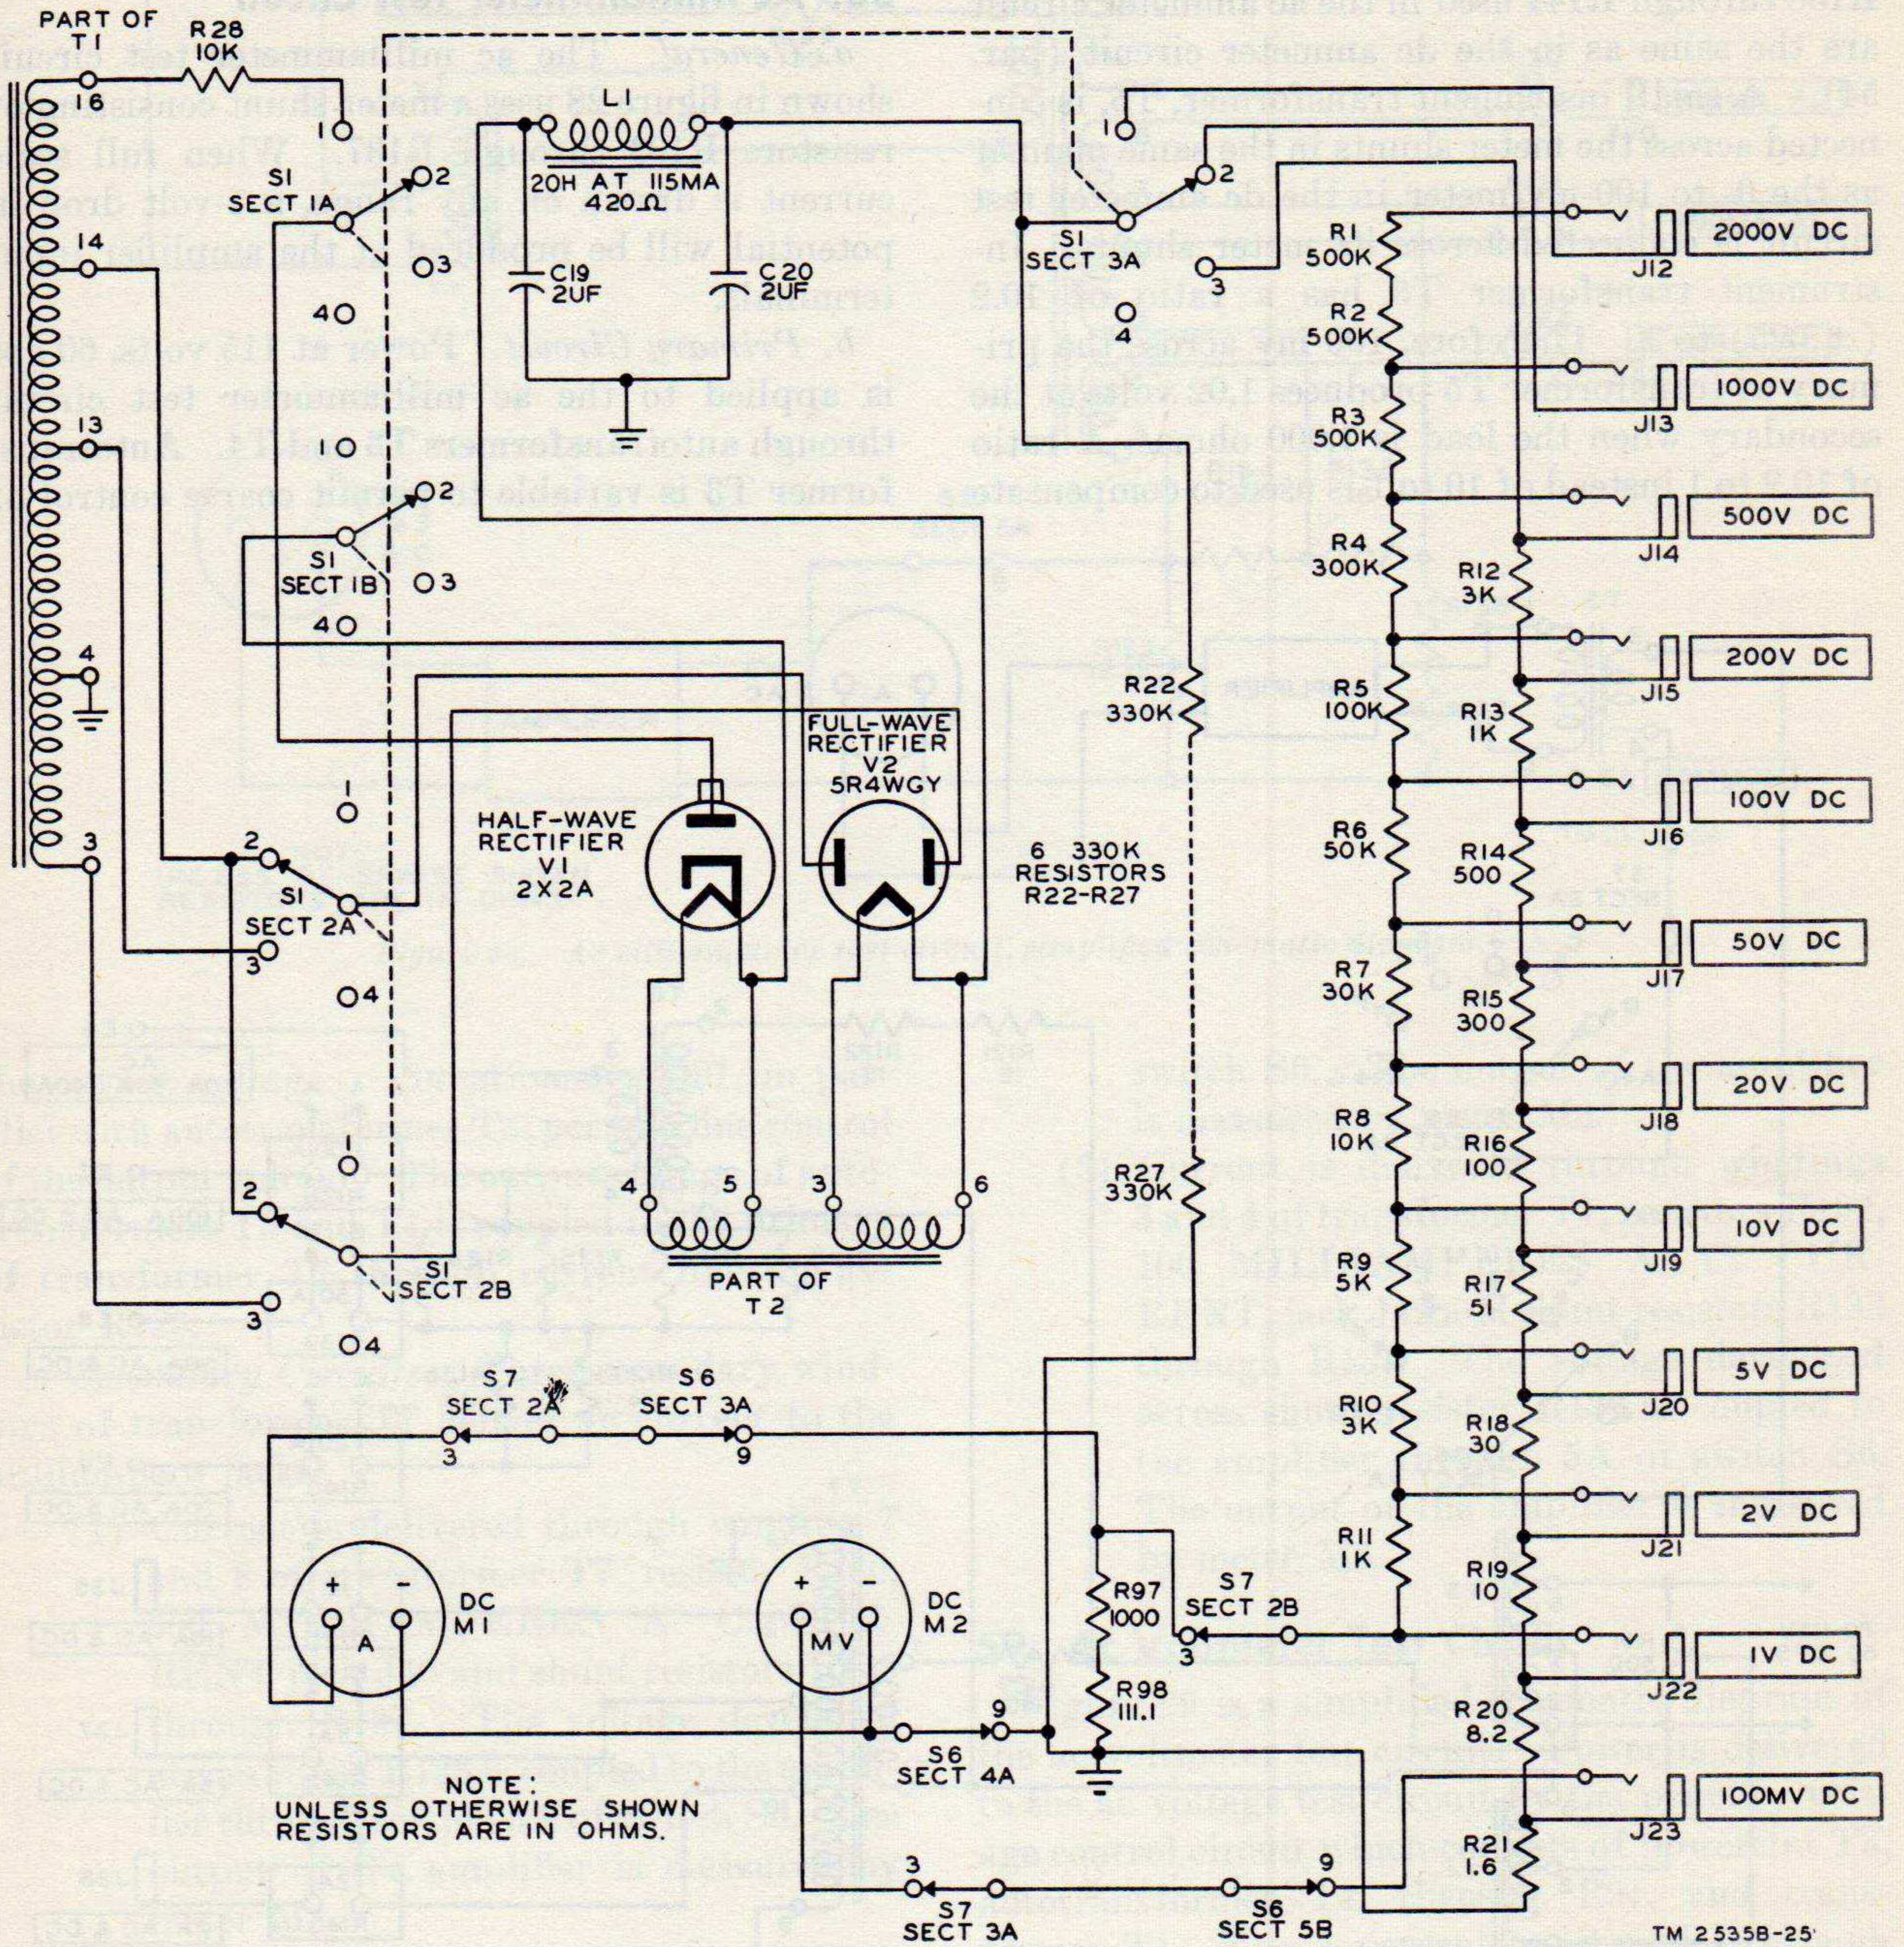

Figure 26. Dc voltage test circuit, simplified schematic diagram.
a. 100 Millivolts to 500 Volts. Figure 26 is a simplified schematic diagram of the dc voltage test circuit. The 5R4WGY rectifier tube V2 obtains its ac potential from transformer T1 and supplies full-wave rectified voltage for the range of 100 mv to 500 volts. The standard meter for the 100-mv range is meter M2, a dc millivoltmeter. All other dc voltage ranges up to and including 2,000 volts are read on meter M1. Meter M2 is selected automatically for the 100-mv range when the test cord plug is inserted into the 100-mv
Figure 29 is a simplified schematic diagram of the ac voltmeter test circuit. Power is delivered to the ac voltage test circuit by the primary voltage control circuit which consists of powerstat T3, autotransformer T4, rheostat R91, and transformer T1. The .1 percent resistors R4 through R11 used in the dc voltage test circuit (fig. 26) are used as meter multipliers in the ac voltage ranges. The amplifier and meter combination has a sensitivity of 1,000 ohms per volt and is used in the same manner as an ordinary 1,000-ohm-per-volt meter movement (par. 52a).